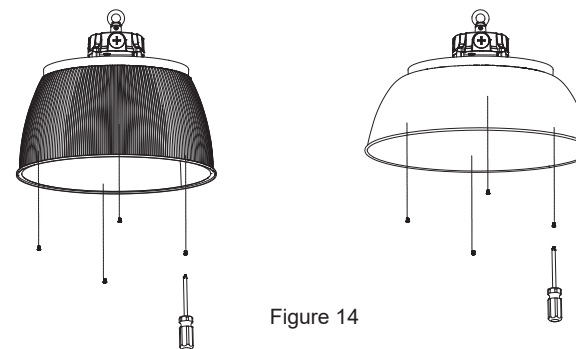

Figure 14
- Step 2. Installation complete. (Figure 14)